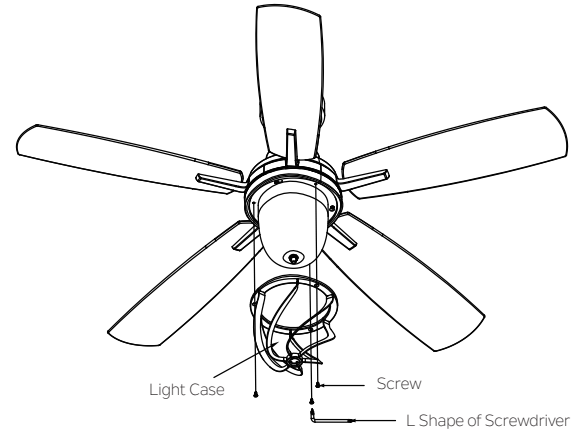

Fig. 24
Step 5. Attach the light case to the light kit, align with three (3) round holes, tighten with three (3) screws by using the included L shape of screwdriver. (Fig. 24)